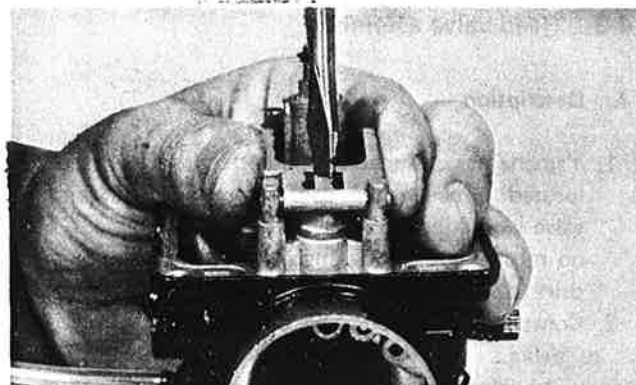

Fig. 4-2-22
- e. To correct float arm height, bend the tang a slight amount as required. (Fig. 4-2-22)